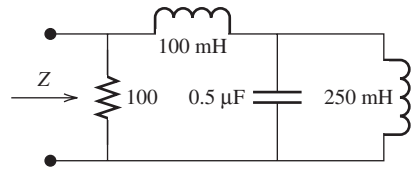

FIGURE P6.23 Circuit for Problem 6.23.
- 6.23 (A) If $\omega = 600$, find Z in Figure P6.23.